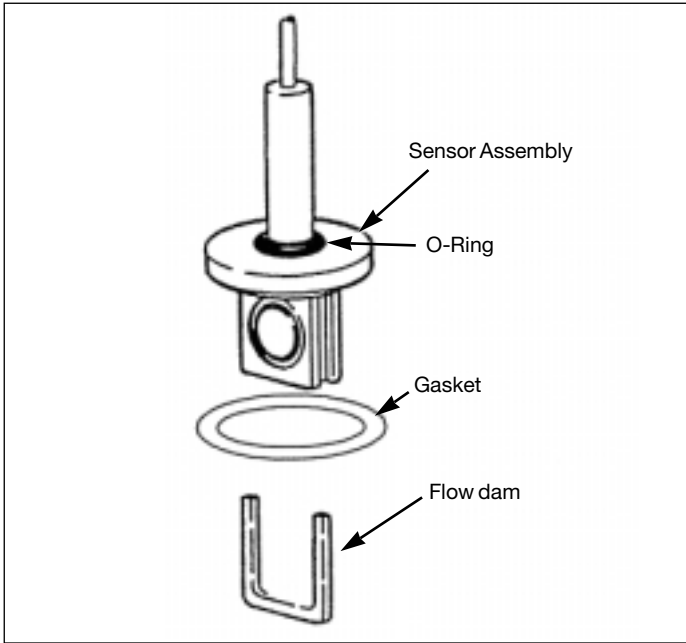

Figure 29. O-Ring/Sensor/Flow Dam
- Slide O-ring over sensor lead and onto neck of sensor. See Figure 29.
Slide O-ring over sensor lead and onto neck of sensor. See Figure 29.